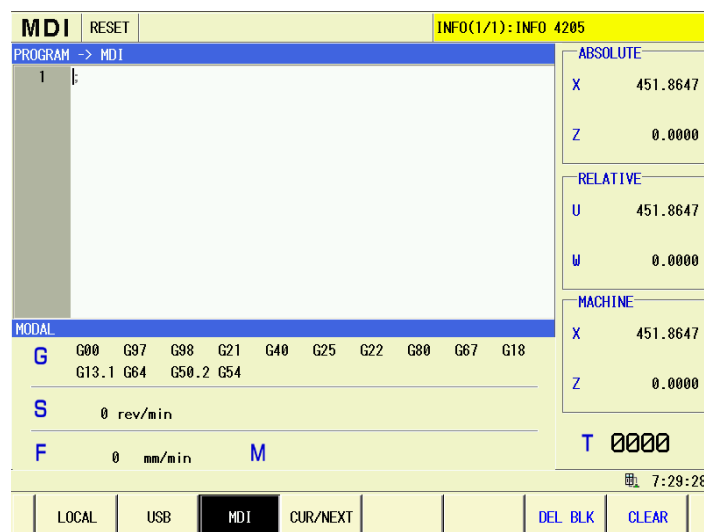

Fig.6-3
(1) On the program display page set, press  key to enter MDI mode, and the page is shown as Fig. 6-3: